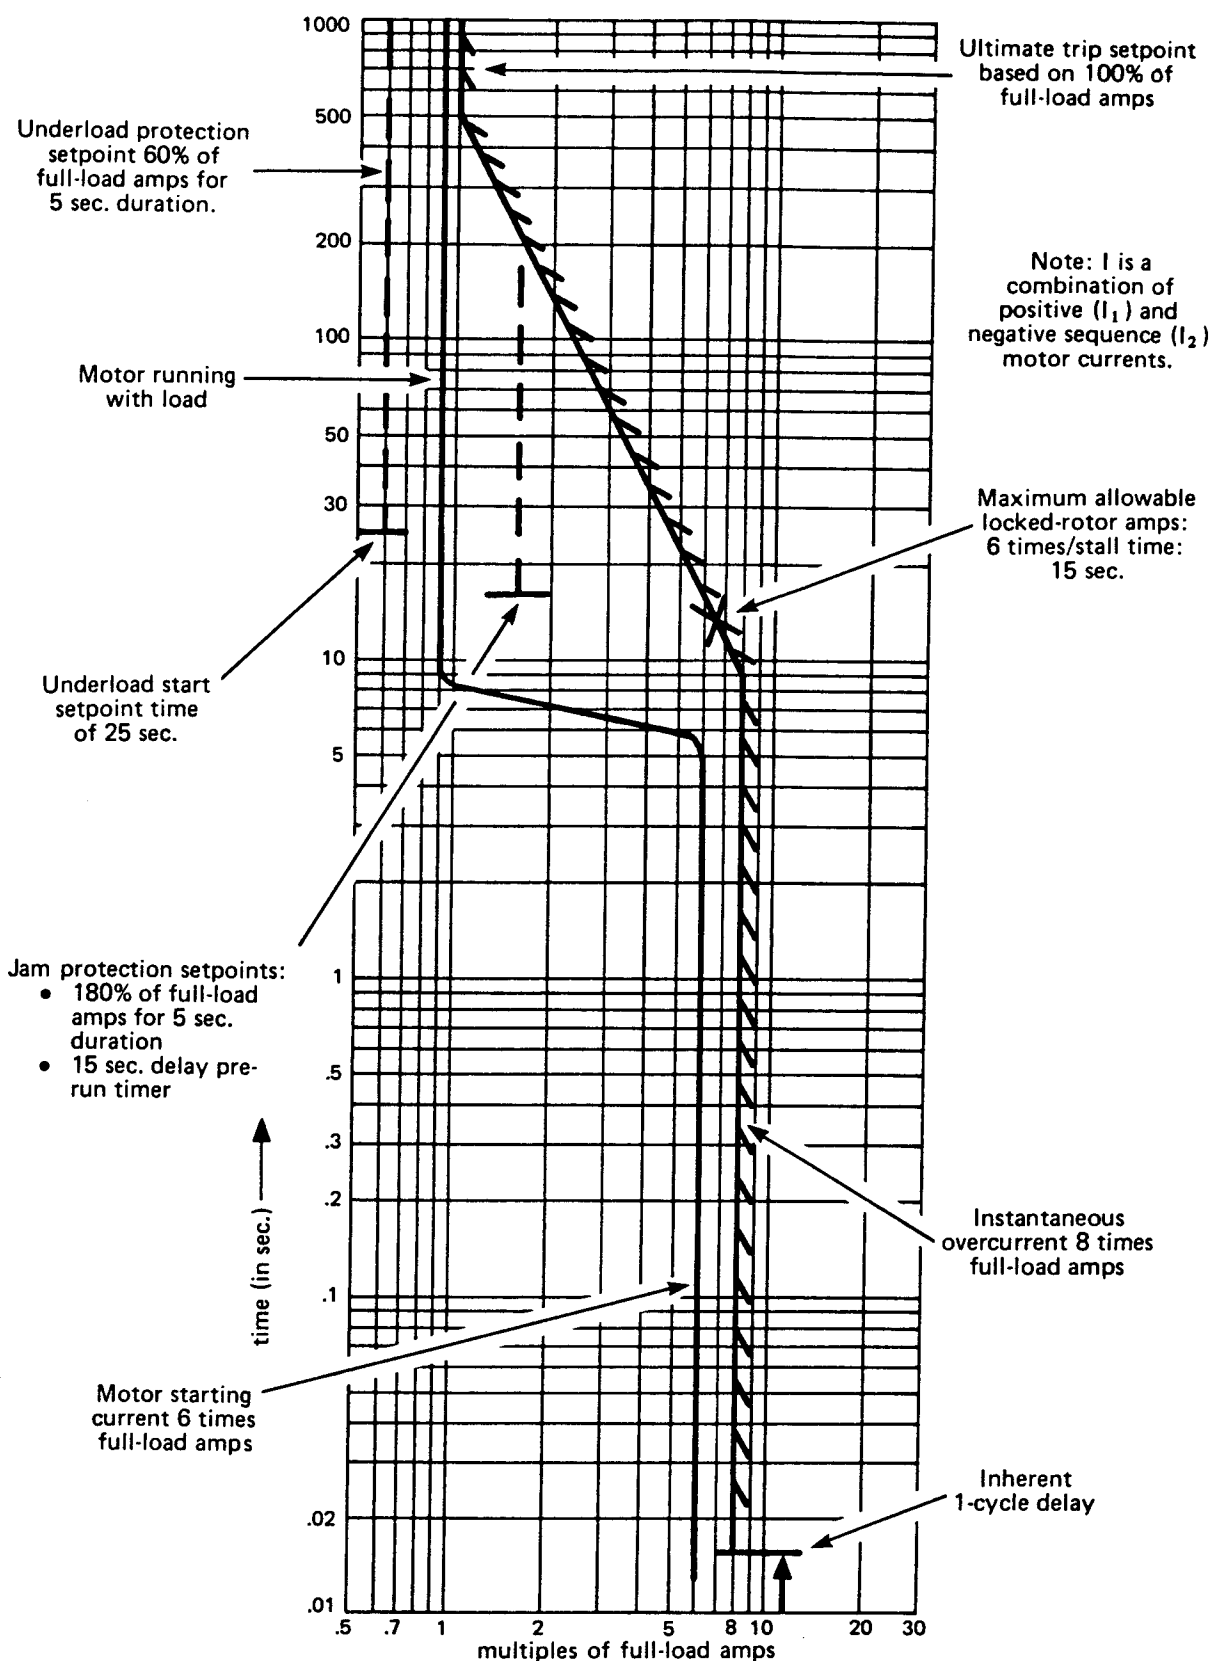
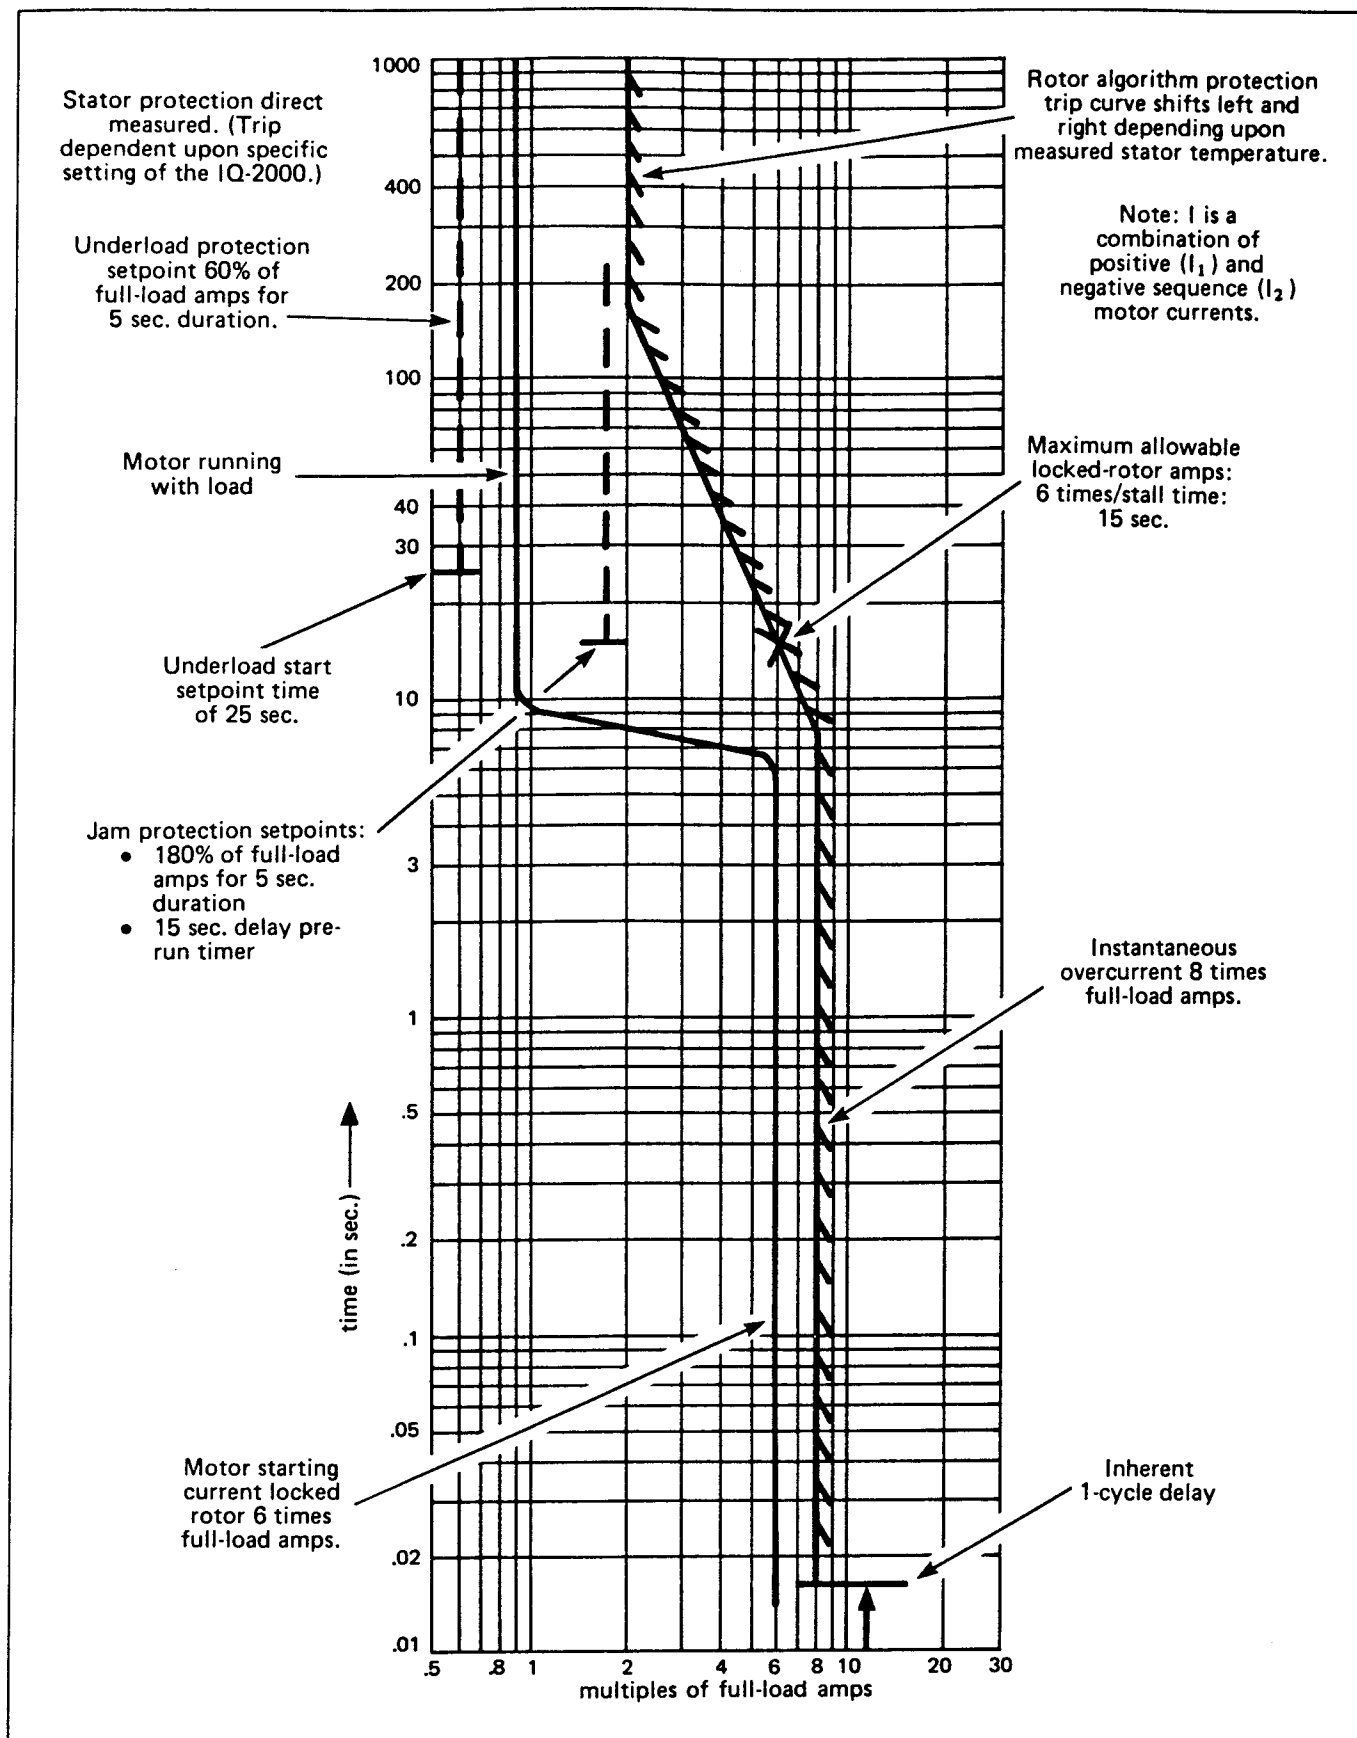

Figure 5.4 – Motor Protection Curve (without RTDs)
Figure 5.5 – Motor Protection Curve (with RTDs)
5.1.4 Typical Motor Protection Curves — To illustrate the effects of these protection features, 2 sample curves are shown. Using specific motor data, typical motor protection curves of the IQ-2000 are shown in Figure 5.4 without the use of RTDs. The use of RTDs is assumed in Figure 5.5. The following data was used:
The basic difference with the addition of RTDs is shown in Figure 5.5 in the time period after 60 seconds. With RTDs, the actual monitored temperature automatically overrides the ultimate trip setting of the IQ-2000. It should be noted that the ambient conditions that the motor is operating under will affect the top portion of the curve. The curve is shifted to the left with increasing ambient temperature, and to the right for decreasing temperature.
The effects of the motor winding temperature setpoint value which is available when RTDs are used are not evident in Figure 5.5. This setting is independent of the effects of temperature on the algorithm trip curve. The setting is based upon the recommended maximum temperature as supplied by the motor manufacturer. Depending upon the specific setting, the temperature trip curve would be to the left of the motor protection RTD algorithm.